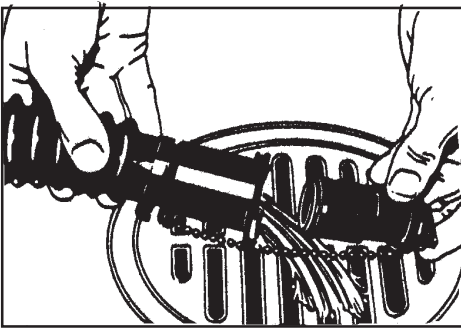

Figure 3
3. When cleanup is complete, empty the liquid by opening the drain valve on the drain hose. See figure 3.